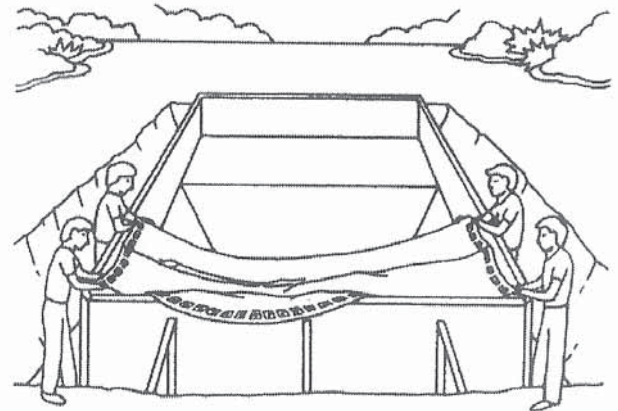

Figure 22: Liner Unfolding
6. Place the liner box at the deep end of the pool, with arrows facing the right direction. Open liner box carefully, be cautious with sharp knives or box cutters that could puncture the liner. Carefully unfold the liner. Have two people take the shallow-end corners and pull the liner to the shallow-end (see Figure 22), keeping the liner away from any sharp edges. **AVOID DRAGGING THE LINER ACROSS THE POOL BOTTOM.**